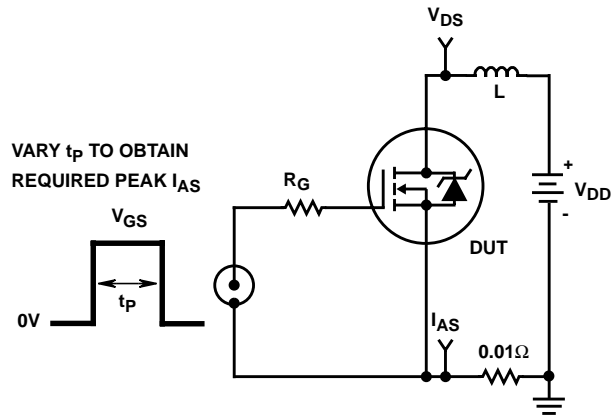

FIGURE 15. UNCLAMPED ENERGY TEST CIRCUIT
4.  $V_{DD} = 50\text{V}$ , starting  $T_J = 25^\circ\text{C}$ ,  $L = 16\text{mH}$ ,  $R_G = 25\Omega$ , peak  $I_{AS} = 6.8\text{A}$ . See Figures 15, 16.